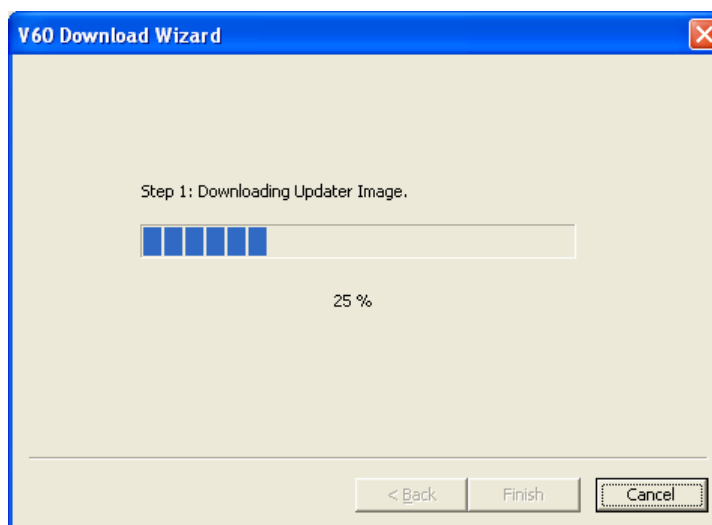

Figure A-5: Updater Image Download
12. The updater image download starts and a progress bar is displayed (Figure A-5).